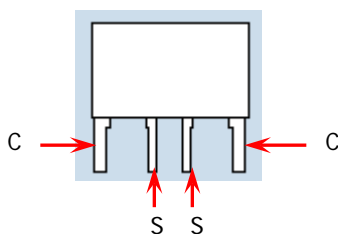

Figure 3-3 4-wire Current Sampling Resistor
- The R_M in the figures above is a 4-wire current sampling resistor (please select current sampling resistor with suitable resistance according to the test item and the channel to be tested). As shown in Figure 3-3, **C** represents the current measurement terminal and **S** represents the voltage measurement terminal. During the test, please make the correct connections.